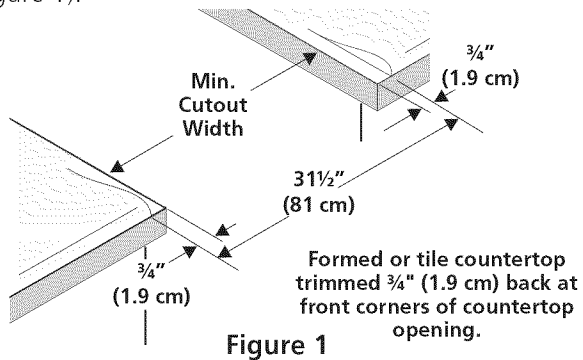

Figure 1
- Formed front-edged countertops must have molded edge shaved flat 3/4" (1.9 cm) from each front corner of opening (Figure 1).
- Tile countertops may need trim cut back 3/4" (1.9 cm) from each front corner and/or rounded edge flattened (Figure 1).